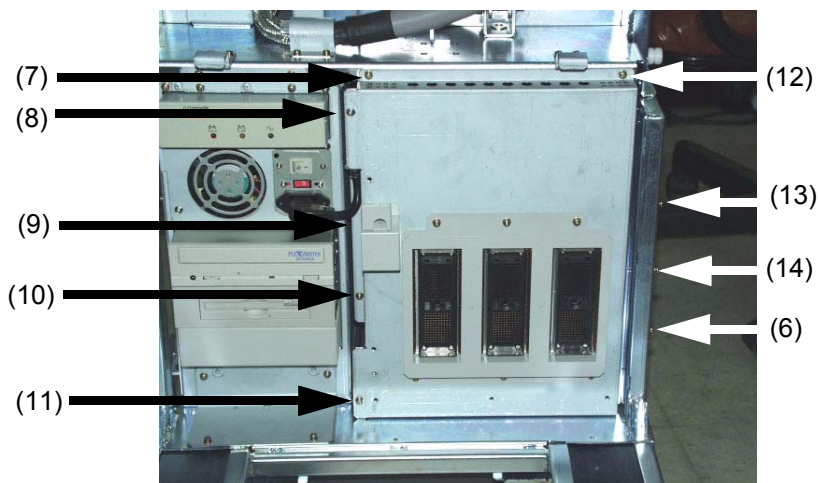

Figure 8-89 Removing the RLY board Cover
- 4.) Unscrew nine (9) screws (6-14) to remove the RLY Board Cover. Refer to Figure 8-89 on page 8-68 .